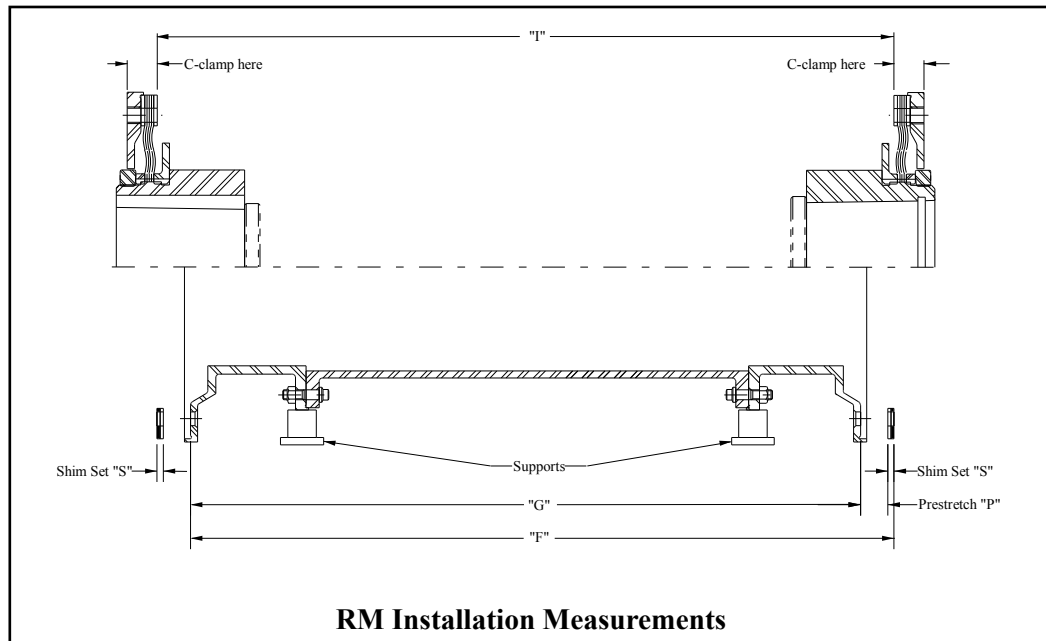

Figure 4-8
- 4.4.2.1 Measure and record, on the worksheet in Paragraph 4.4.5, the installation length "I" (distance between mounted diaphragm pack faces) at four (4) places approximately 90° apart. It is recommended that C-clamps be used to compress the diaphragm pack at the location the measurements are being taken (see Figure 4-8).
- 4.4.2.2 Assemble the pack adapters onto the spacer taking care to re-align the matchmarks and end identification letters. Install a minimum of four (4) bolts approximately 90° apart through each flange and tighten the bolts evenly in a crisscross pattern to seat the pilots. Support as shown in Figure 4-8.
- 4.4.2.3 Measure and record, on the worksheet in Paragraph 4.4.5, the coupling free length "G" (distance between pack adapter outer flange faces) at four (4) places approximately 90° apart (see Figure 4-8).